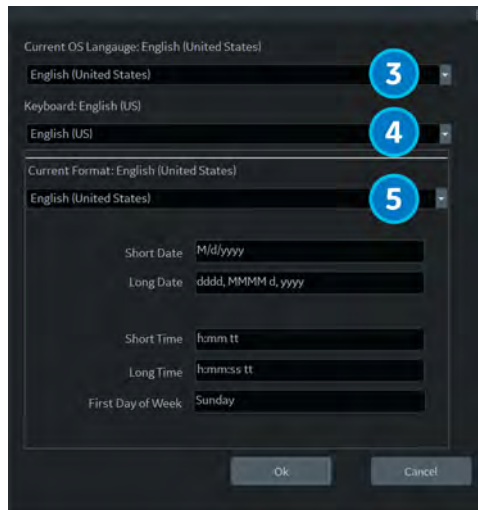

Figure 3-21. Regional Options Dialogue Box
- **Current OS Language** - Select the language from the dropdown menu (3) to match the system language selected in Step 1.
- **Keyboard** - Select the keyboard language preference from the dropdown menu (4).
- **Current Format** - Select the date and time format preference from the dropdown menu (5).
NOTE: *For the United Kingdom, it is recommended to use ENG Language (1), English (United States) OS Language (3), and modify "Current Format" time/date settings to English (United Kingdom) (4) (see Figure 3-21 on page 3-41).*